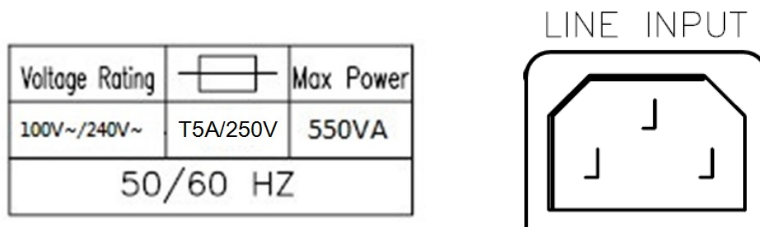

Fig 2-1 3350G series AC Input Connection
- 2.2.2. Refer the drawing on the rear panel of 3350G series high power load in Fig 2-1.